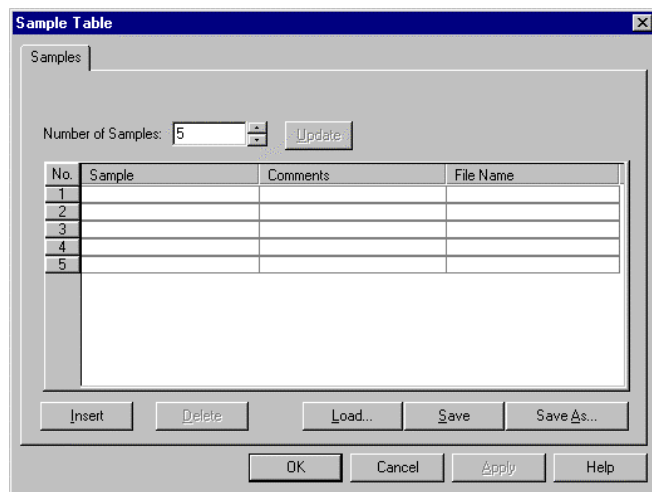

Fig. 3-8 Sample Table Window
- (1) Open the monitor window and click the  button.
- (2) When the Sample Table window in Fig. 3-8 appears, fill in the blank section. For instance, if there are five samples, click the **Insert** button five times.